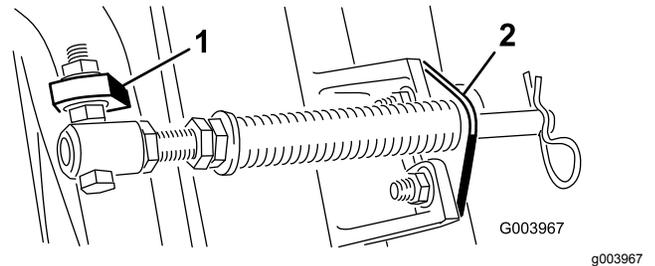

Figure 6
Note: Position the bolt head to the outer side of the tab as shown in Figure 6.
- Mount the rod bracket to the cutting-unit tabs with the carriage bolts and nuts (Figure 6).